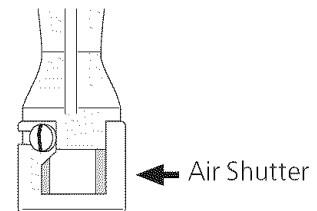

Figure 14
5. If adjustment to the air shutter is necessary, locate oven burner air shutter, loosen shutter set screw and adjust to obtain optimum flame (figure 14). This will normally be completely open for LP gas. Tighten shutter set screw.
4. If adjustment to the air shutter is necessary, locate oven burner air shutter, loosen shutter set screw and adjust to obtain optimum flame (figure 14). This will normally be completely open for LP gas. Tighten shutter set screw.